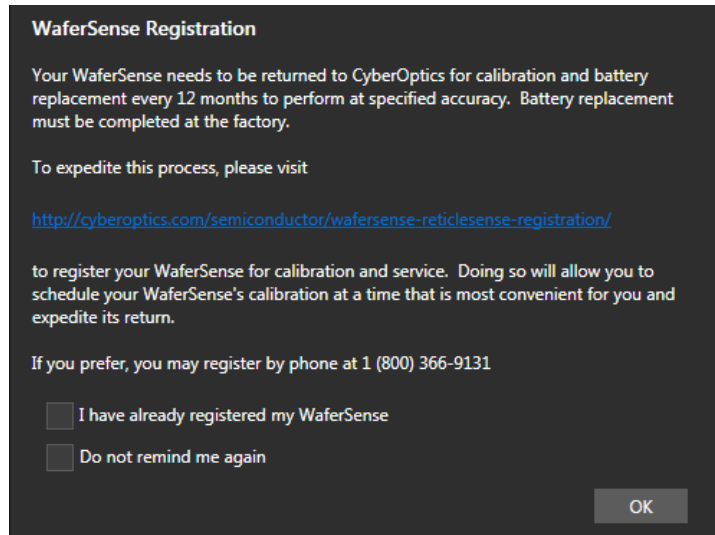

Figure 2.6: Calibration Registration Dialog
2. If ParticleSpectrum displays the APS Calibration Registration dialog, as shown in Figure 2.6, you haven't registered your APS device. Follow the instructions in the dialog to complete the registration.